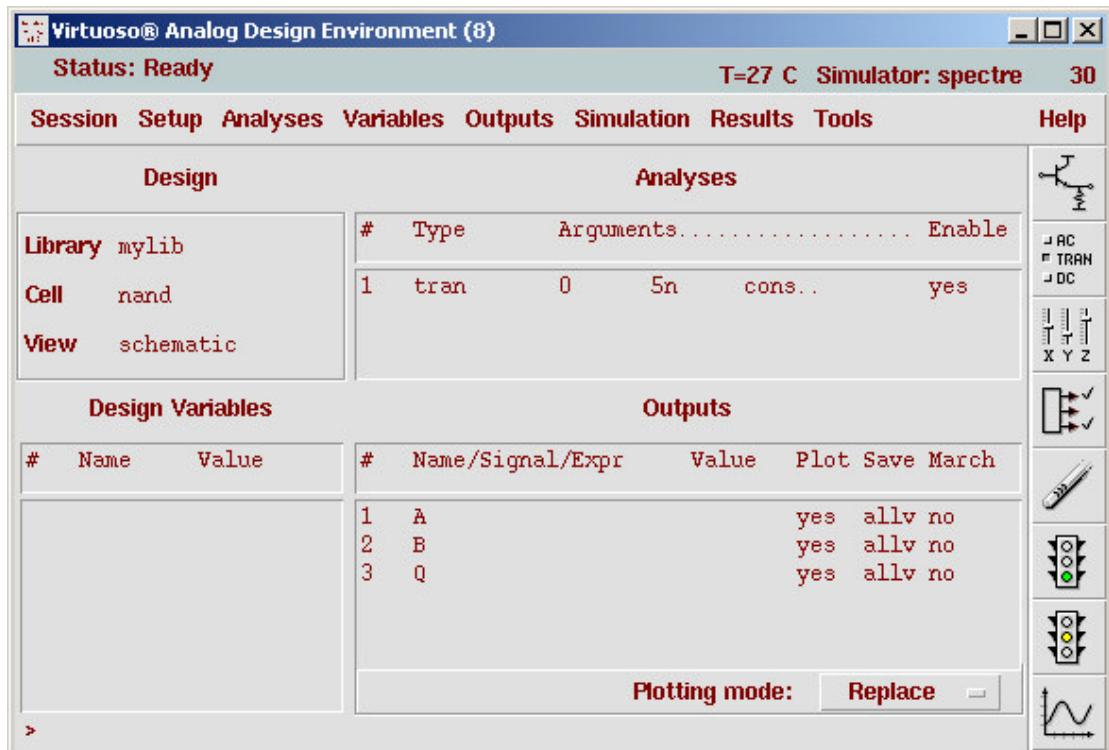

Figure 64. Analog Design Environment Ready for Simulation
5. Verify that your **Analog Design Environment** looks like that in Figure 64.